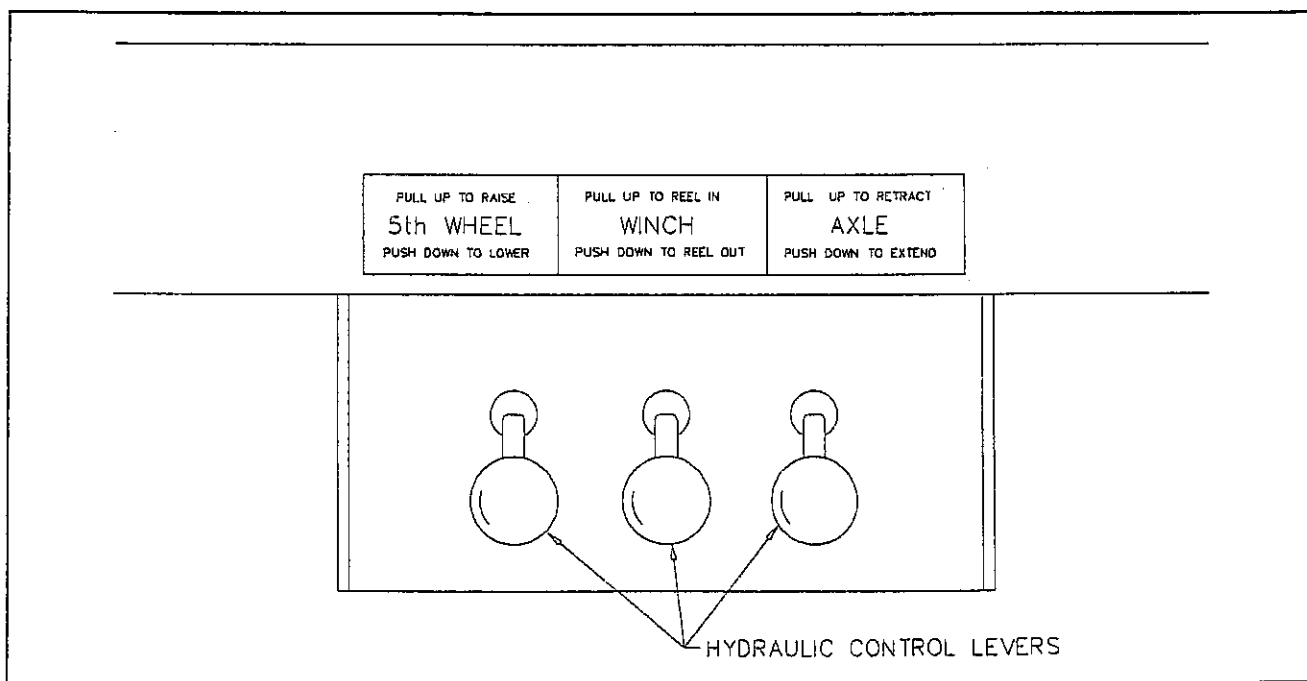

Figure 3-2 Hydraulic Control Levers
b. The king pin plate should be the same height as, or slightly lower than, the latch area of the fifth wheel plate of the tractor. If necessary, connect the tractor hydraulic lines or start the trailer hydraulic power engine. Use the 5th WHEEL lever (see Figure 3-2) to raise or lower the kingpin plate sufficiently to allow proper coupling.
3-3.1 While hydraulic power is operating, raise the front end of the semitrailer with the 5th WHEEL lever (see Figure 3-2) until weight is off the landing gear. Raise the landing gear. Secure each leg in fully retracted position, with a park stand retaining pin, before transporting.
The 5th WHEEL Lever is located on the driver side of the semitrailer under the outer frame siderail (see Figure 3-2). It has three positions:
The AXLE control lever (see Figure 3-2) is the control on the right with three positions: